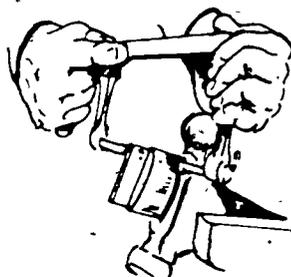

FIGURE 6
I. Place the hammer in the vise and use a hacksaw to cut off the handle and wedge extending through the head (Figure 6)